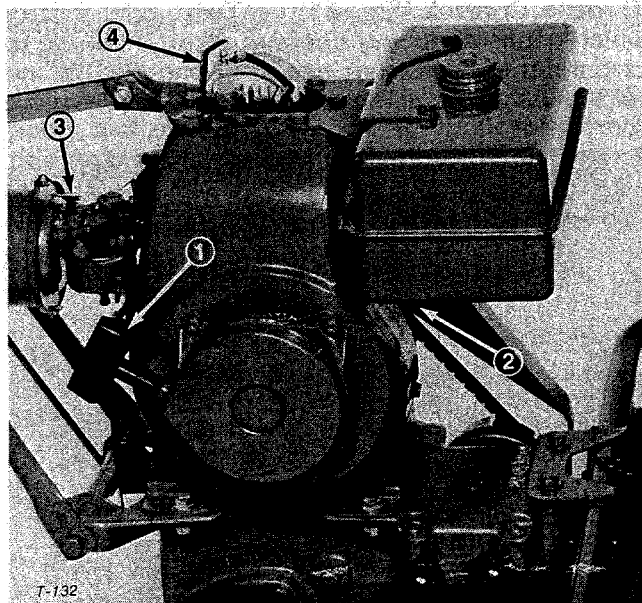

Figure 15
Choke Lever (Fig. 15) — Rotate lever fully counterclockwise to start a cold engine. Move lever back in increments as engine warms up until choke is fully open. Choke not normally used when engine is warm from previous operation.
Recoil Starter (Fig. 15) — Pull recoil starter handle to start engine.
Fuel Shut-off Valve (Fig. 15) — At bottom of fuel tank. Open before beginning of operation. Shut off when mower is to be stored for a lengthy period.
Engine Stop Switch (Fig. 15) — Located at top of engine. Push downward and hold against spark plug to stop engine.
2. Open fuel valve on fuel tank (Fig. 15).
3. Move choke lever (Fig. 15) to CHOKE position before starting a cold engine.
5. To stop engine during operation, move traction and reel drive controls to DISENGAGE position, throttle control to SLOW (Fig. 16) and push engine stop switch down and hold against top of spark plug (Fig. 15).
7. Close fuel valve before storing machine (Fig. 15).